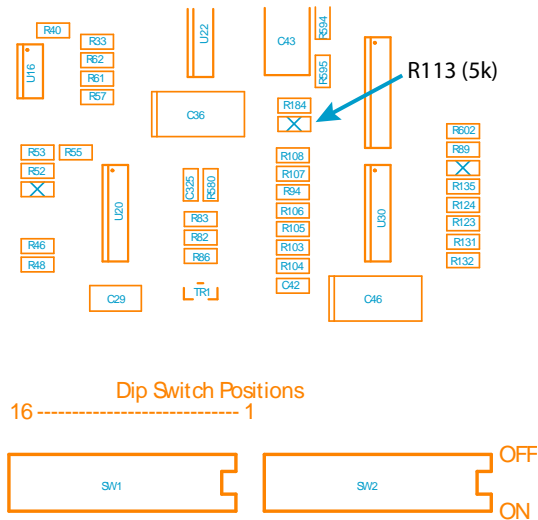

Figure 3.8: R113 is connected so that signals on the rear-panel SWEEP input is always added to the piezo. Remove if using external sweep.
1. Locate R113 near the DIP switches (see figure 3.8).